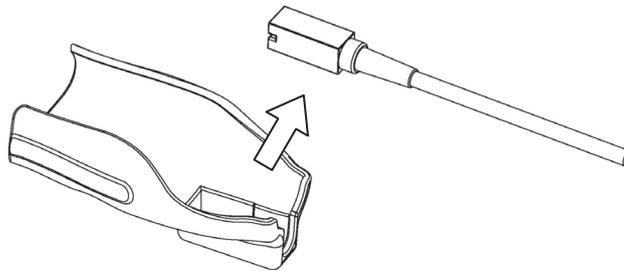

Fig. 14 How to release the Magnetic sensor from the Magnetic sensor attachment
- 2) Release the magnetic sensor from the magnetic sensor attachment as shown in Fig. 14.